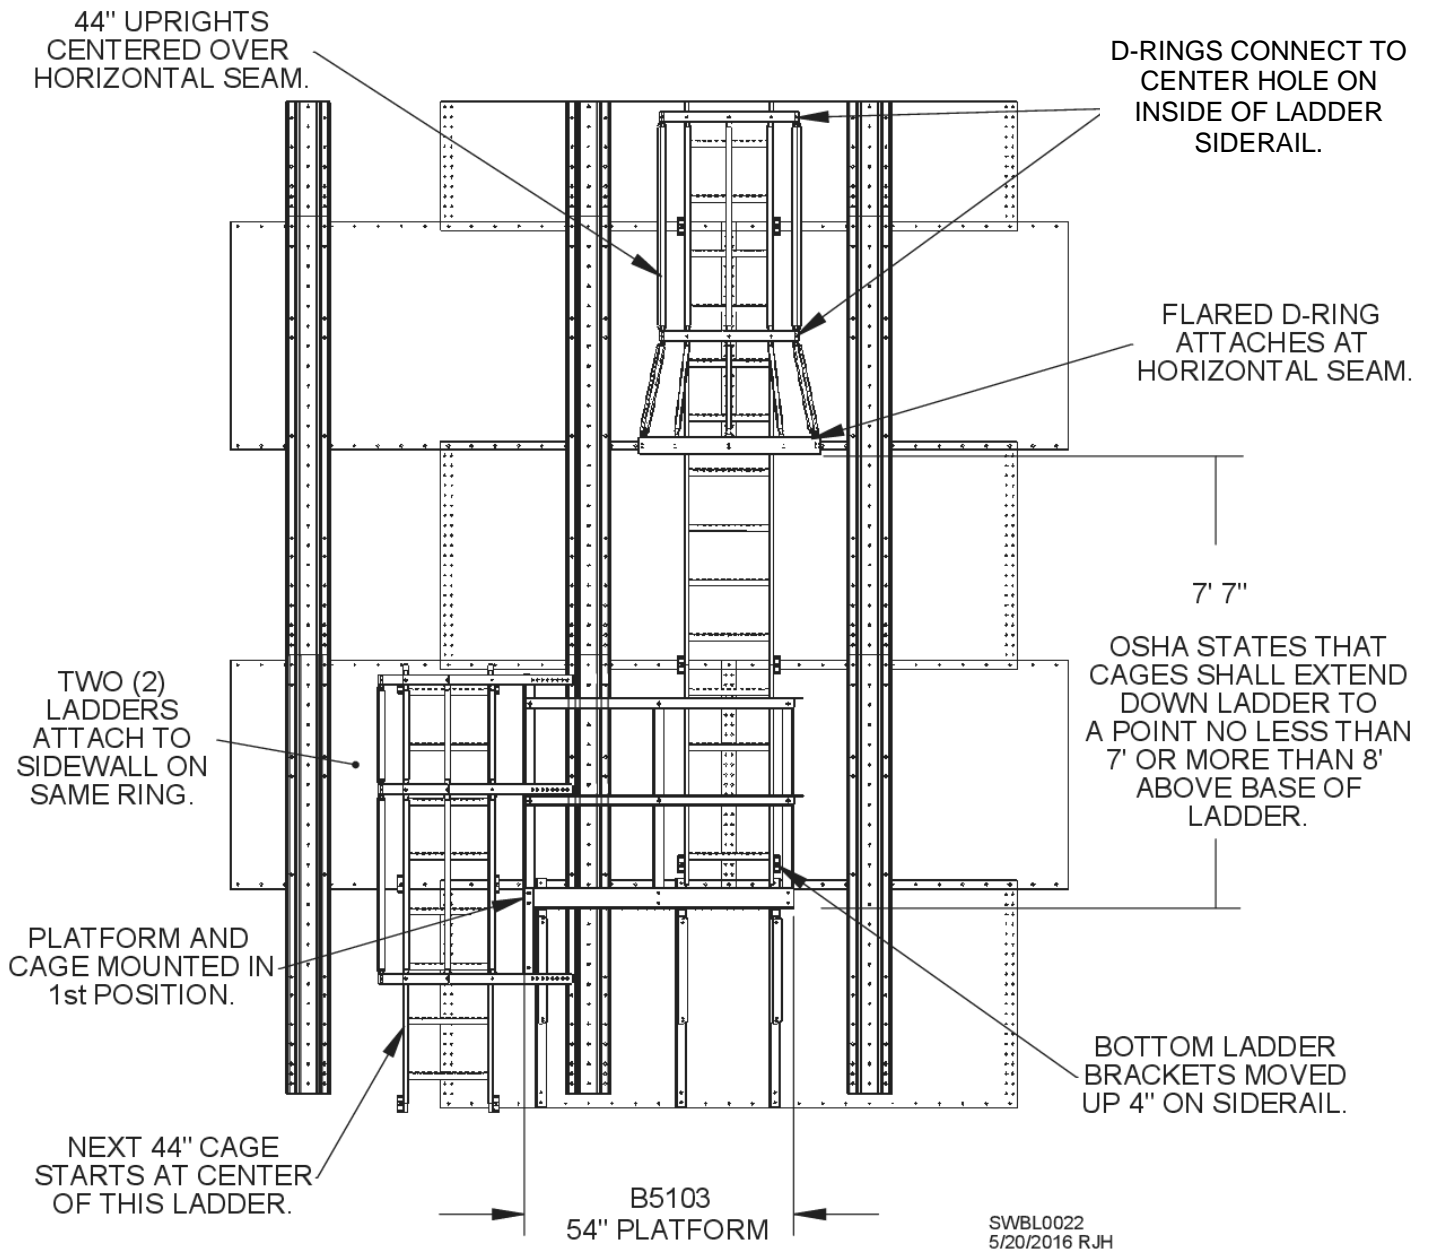

Fig. 29
Fig. 29 shows where flared D-ring should be attached in relation to 54" landing platform on a stiffened bin. Flared D-ring should be two (2) sidewall rings above platform. **Platform must be attached to sidewall in 1st position.** This will ensure that OSHA standards are met, as well as ease erection of ladder and cages. Two ladders attach to sidewall on same ring at platform location. At top and bottom of each ladder assembly, sidewall brackets need to be moved either up or down 4" to avoid interference with roof sheets, platform brackets, concrete and ladder caps.
To ensure that additional ladder columns will be centered between two stiffeners, attach platform to sidewall as shown in Fig. 29. Top ladder column should have already been centered between two stiffeners.
Attach 54" landing platform to sidewall under upper ladder as shown in Fig. 29. Attach 44" ladder section to sidewall ring above platform, centered between two stiffeners. Fasten corner post extension, B5093, to bottom of open-faced corner post B5111 as shown in Fig. 30. Note that corner post B5111 is slightly longer than B5112 posts. Placement is critical.